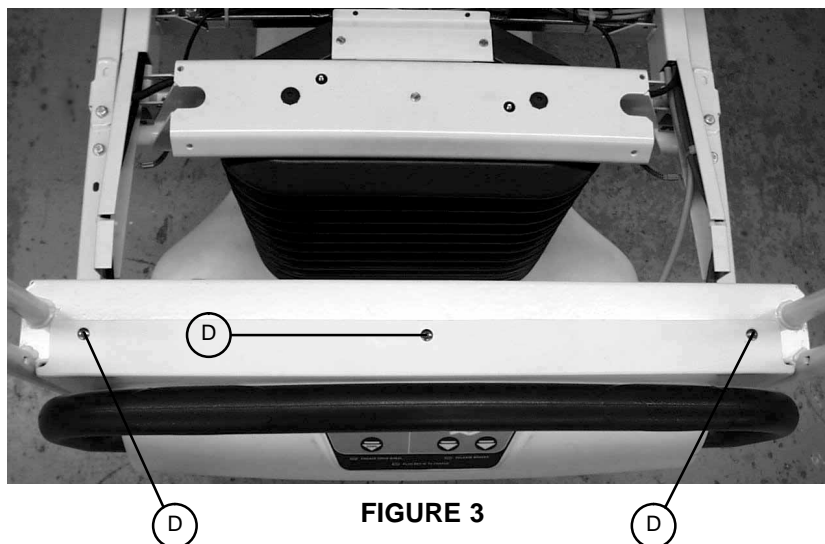

FIGURE 3
- Using a #2 Phillips screwdriver, remove the three screws (D) holding the control bar cover to the head end of the bed (see Figure 3).